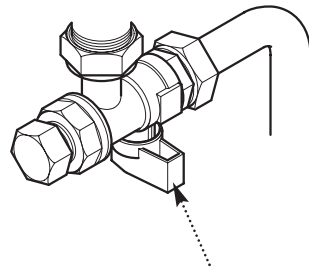

Fig. 2
2. The isolating valves are positioned under the boiler and can be closed by turning their taps to the right towards the wall (Fig. 2).